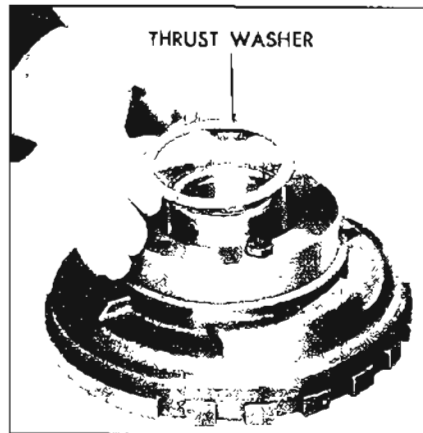

Figure 5-683
16. Install the bronze center support to reaction carrier thrust washer into the recess in the center support. Retain with petrolatum. See Figure 5-683.